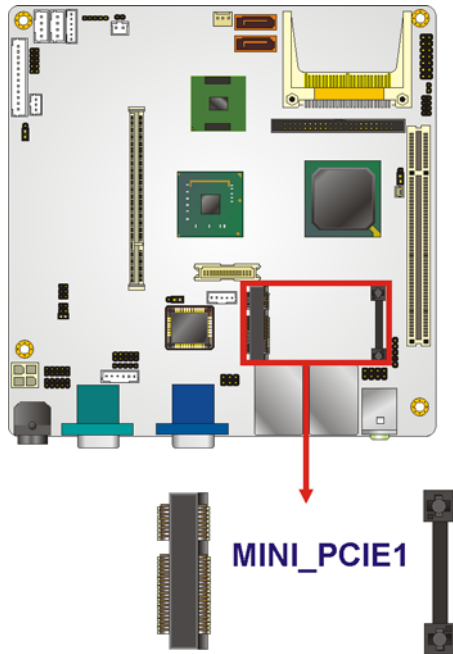

Figure 4-14: PCIe Mini Card Slot Location
- CN Location:** See **Figure 4-14**